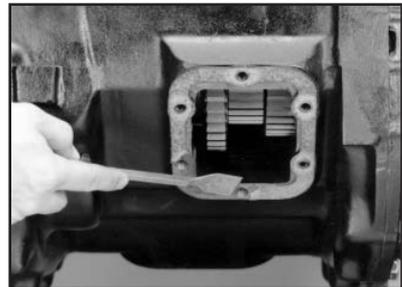

Figure 2
2. Discard the cover plate and cover plate gasket, and then clean the aperture pad using a putty knife or wire brush (**Fig. 2**).